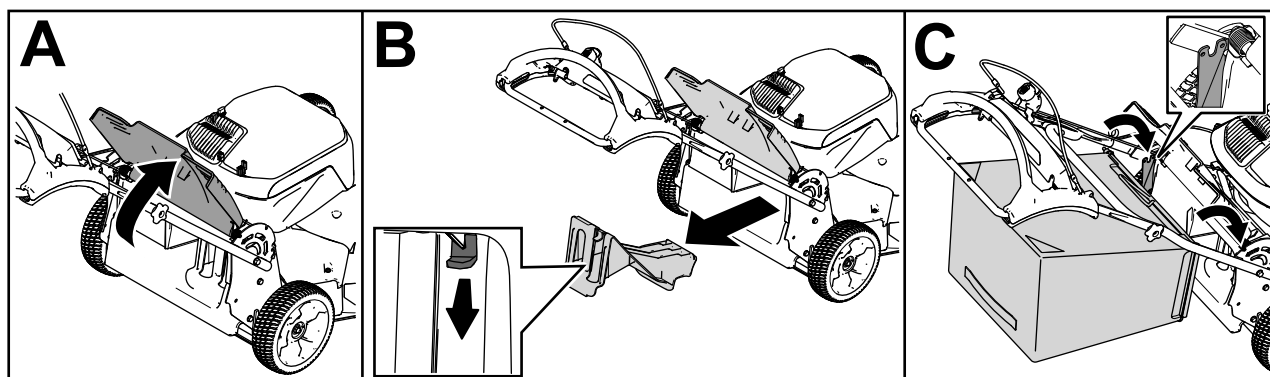

Figure 18
1. Raise and hold up the rear deflector (A of Figure 18).
2. Remove the rear-discharge plug by pulling down on the latch with your thumb and pulling the plug out from the machine (B of Figure 18).
3. Install the bag rod into the notches at the base of the handle and rock the bag back and forth to ensure that the rod is seated at the bottom of both notches (C of Figure 18).